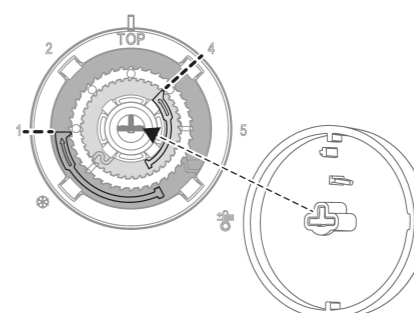

Figure 4: Setting the temperature limit (before/after)
- Pull the control knob off the central plate so that the adjustment rings are visible (Figure 4).
- Replace the control knob, observing the coding (Fig. 4) of the rotary axle.